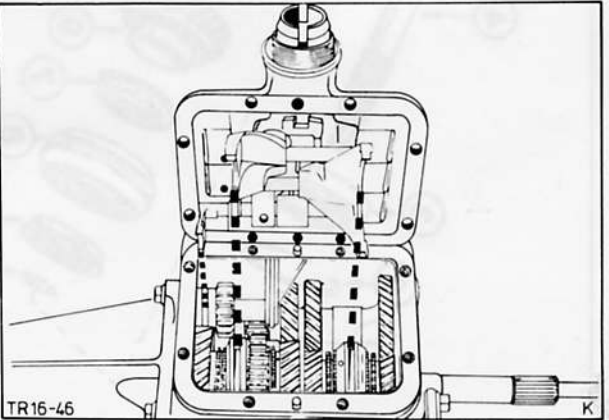

Fig. 68. Gearbox selector housing removed
4. Detach gearbox selector housing (8 bolts), Fig. 68.